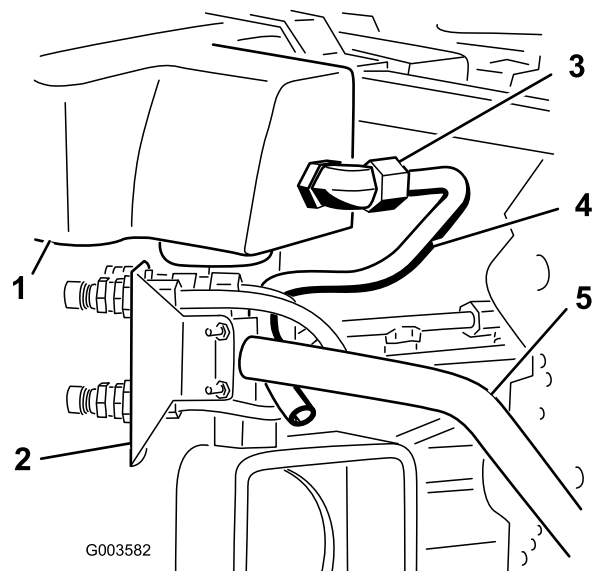
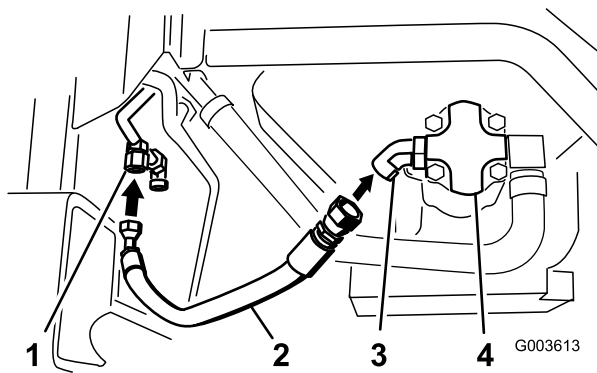
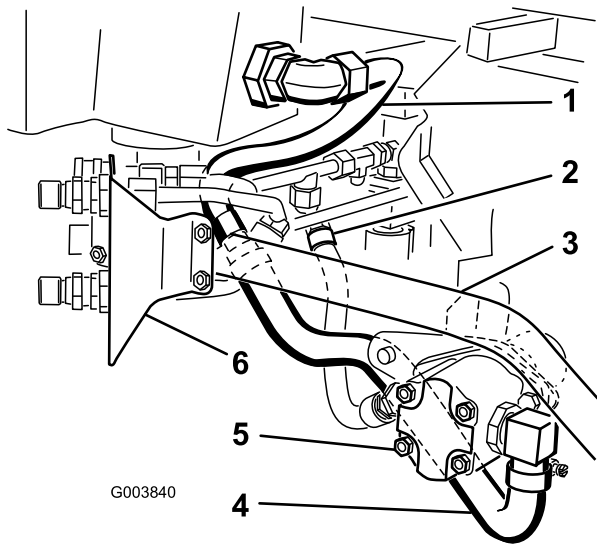

Figure 25
Figure 29
Figure 30
4. Position hydraulic line number 3 into the machine as shown in Figure 25.
5. Install hydraulic line number 3 to the large 90 degree elbow installed to the strainer and hydraulic tank (Figure 25 and Figure 30).
- Install the large hydraulic hose to the 90 degree elbow installed to the side of the hydraulic pump (Figure 26 and Figure 30).
- Install the hydraulic hose with fittings to the 45 degree elbow attached to the hydraulic pump (Figure 29 and Figure 30). It will be below the hydraulic cylinder.
9. Use Figure 30 for the correct locations of the hoses and hydraulic lines to the hydraulic pump.